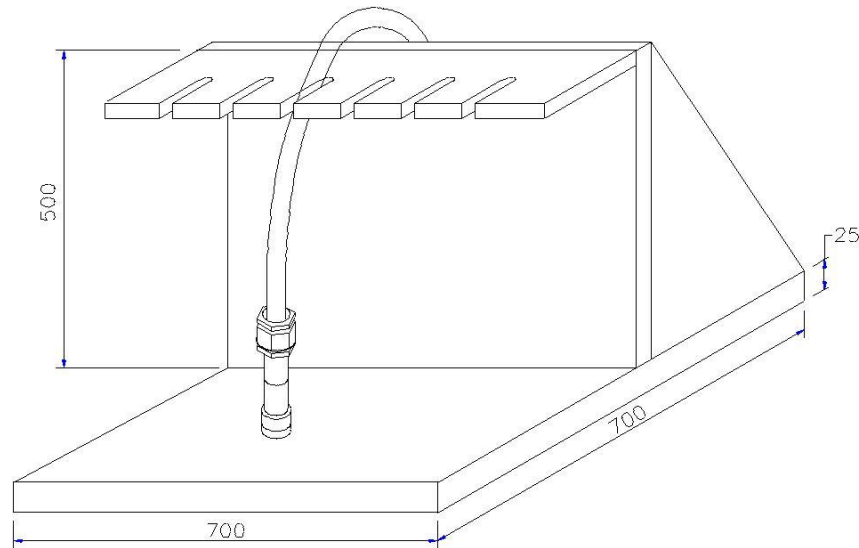

Figure 4.1
- 4.18 Fixture for jointing upto six uplift pressure meters (refer figure 4.1)